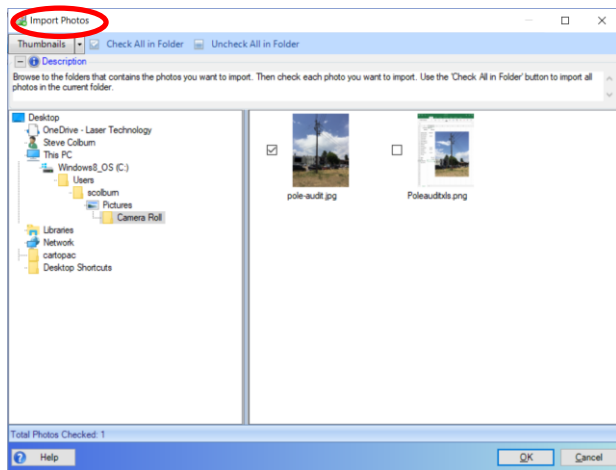

Figure 19
19. Start a job in Core, choose the **Import Photos** tab and select which images to bring in (Figure 19), tap OK